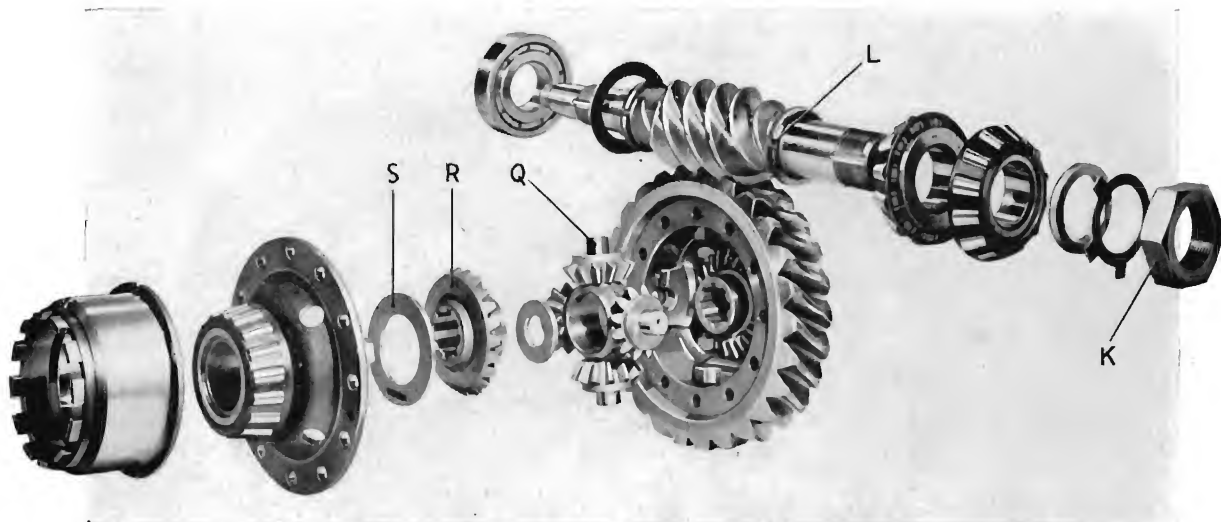
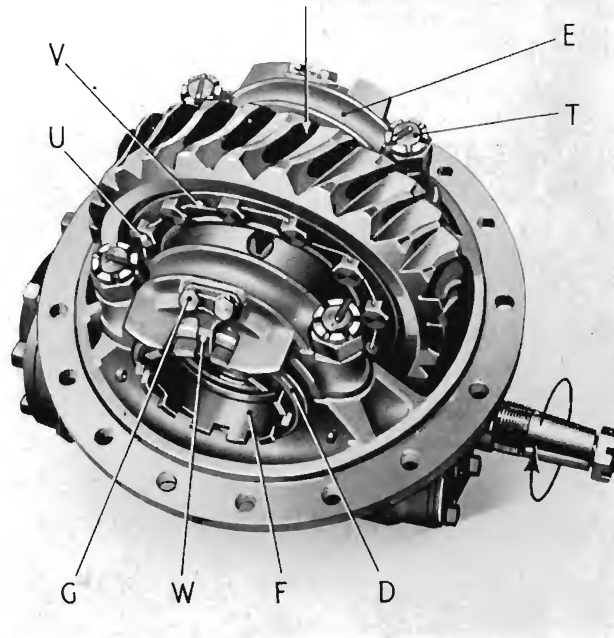

Fig. 6.
Fig. 7
Take off the nuts (*T*), Fig. 7, and the bearing caps (*E*) and lift the differential assembly clear, the bearing cups with outer races and adjusting nuts can then be removed.
The halves of the differential cage are fitted in the worm wheel on spigots, the whole being securely bolted together by alloy steel bolts fitted in reamed holes; the nuts and bolt heads are wired together. The cages can be removed by taking off the nuts, drawing out the bolts (*U*) and screwing two of the bolts into the tapped holes (*V*) provided to draw the cages from the wheel. The differential pinions are carried on a trunnion (*Q*), Fig. 6, which takes its bearings in the cage and also provides a bearing for the side pinions (*R*). Detachable, bronze wearing washers (*S*) are fitted behind the pinions (*R*) and a spacing washer is fitted between them.
If the bearings are to be renewed, the thrust race can easily be removed after taking off the nut (K). Two recesses (L), Fig. 6, are provided in the shoulder on the worm shaft so that a bar can be used to tap off the races. When the nut (K) is replaced it must be tightened solid and locked with the tab washer.
and the differential bearings adjusted. Have all parts perfectly clean, fit the worm shaft and adjust for end play. Coat the worm with a thin layer of marking blue and place the differential assembly in position; tighten the nuts (T), Fig. 7, so that the caps (E) barely nip the cups (D) on the outer races. Screw up both adjusting nuts (F) until there is no play in the bearings then align the worm and wheel by adjusting both nuts. Slack off each nut one notch and rotate the worm shaft in the direction of arrow in Fig. 6, keeping a load on the worm wheel so as to obtain a good marking. Fig. 7 shows the appearance of the worm wheel when correctly aligned; the driving face of the tooth should show a marking of from one-half to three-quarters the width of the tooth on the leaving side. **The entering side should not show marking;** the contact will be central when under load.
ings"), tighten and pin the nuts (T), Fig. 7, and fix the locking plates (W). The setscrews (G) must be wired together.
On underslung worm axles the worm shaft should be rotated in the same direction as shown in Fig. 7. The marking will then appear on the other side of the tooth on the leaving side. This corresponds to driving the axle.